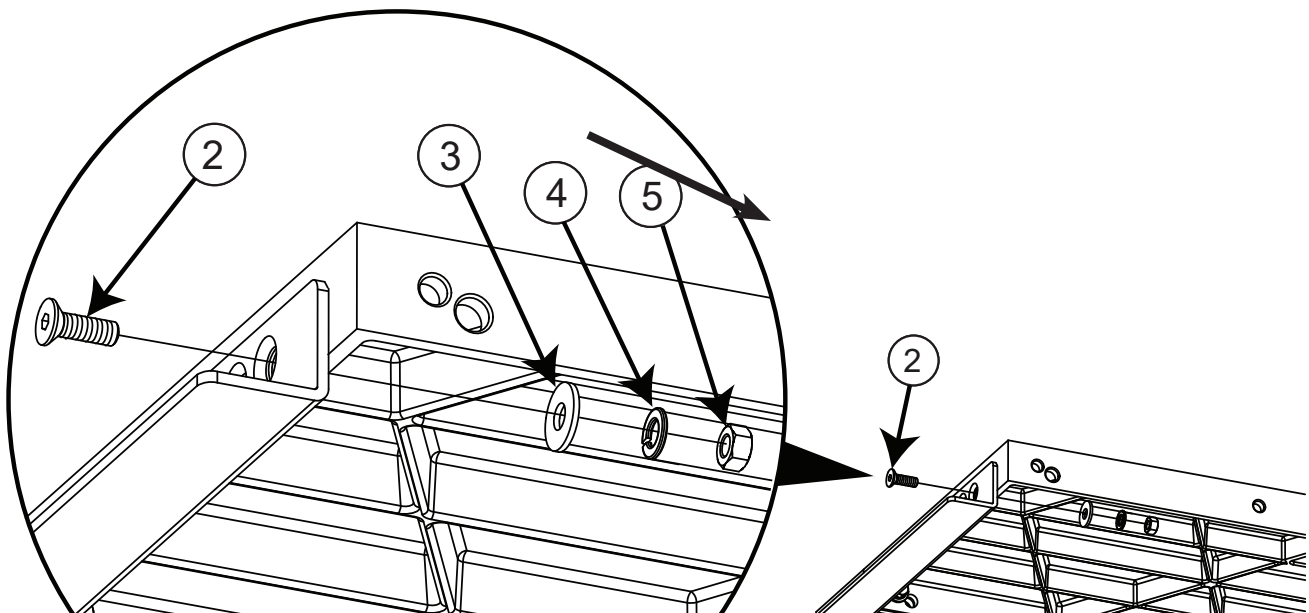

Fig. 7
7. Take two M8x1.25x25 flat-head socket bolts and insert one through the open hole at the end of each extension wing. Place an M8x23x2 washer and an M8 lock washer on the back of each bolt and then thread an M8x1.25 hex nut on each bolt (see Fig. 7). Hand tighten the nuts; do not fully tighten them.